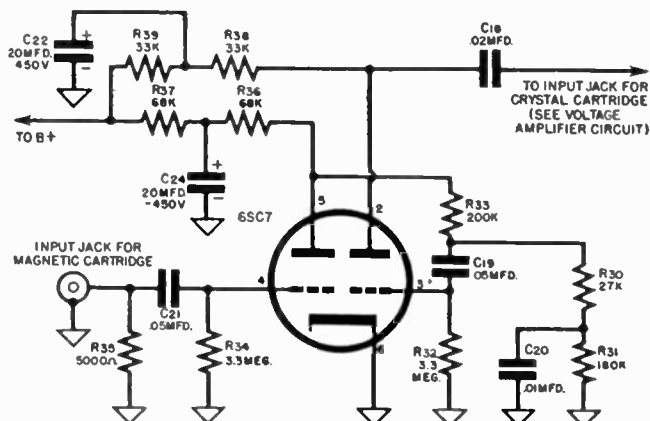

Fig. 5-28. Preamplifier circuit.
g) *Preamplifier Circuit.* See Figure 5-28.